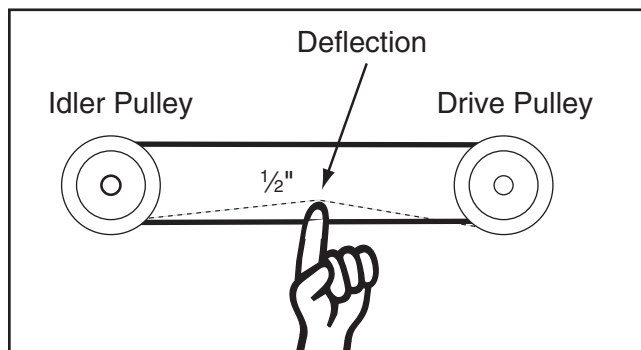

Figure 92. Checking sanding belt tension.
5. Push the belt in the center with your finger using moderate pressure. The deflection is correct when the belt deflects $\frac{1}{2}$ ", as shown in **Figure 92**.